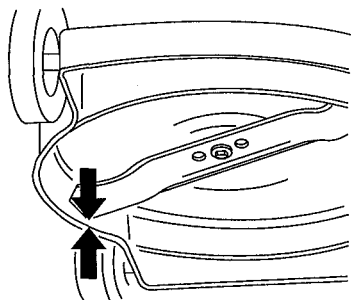

Figure 28
2. Measure the distance from the bottom edge of the mower housing to the blade tip (Fig. 28). Rotate the blade 180° and measure to other blade tip.